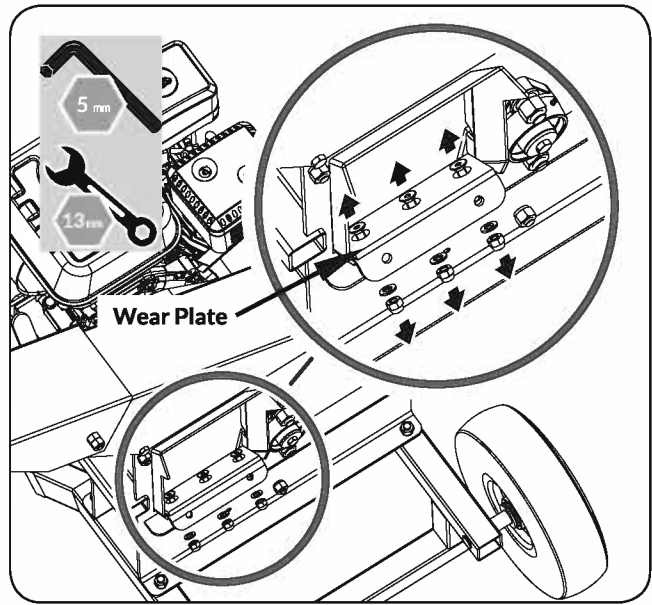

Figure 17
- Remove the locknuts and bolts that attach the wear plate to the chipper assembly and then remove the wear plate. (See **Figure 17**)